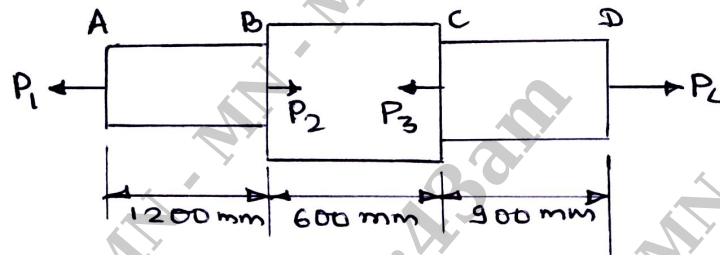

Fig.Q1(c)
- c. A member ABCD is subjected to point loads P_1 , P_2 , P_3 and P_4 as shown in Fig.Q1(c). Calculate the force P_2 necessary for equilibrium if $P_1 = 45\text{kN}$, $P_3 = 450\text{kN}$ and $P_4 = 130\text{kN}$. Determine stresses in each member and also determine the total elongation of the member assuming the $E = 2.1 \times 10^5 \text{N/mm}^2$.